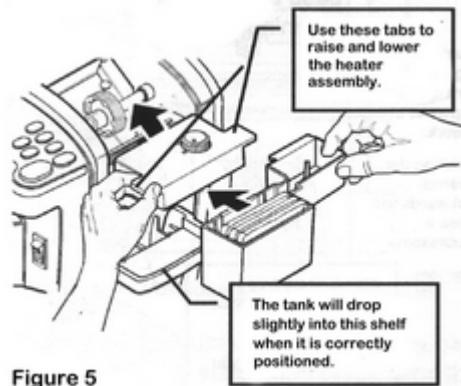

Figure 5
- Lift the front of the heater assembly and slide the water tank into position at the front of the dispenser (see figure 5).